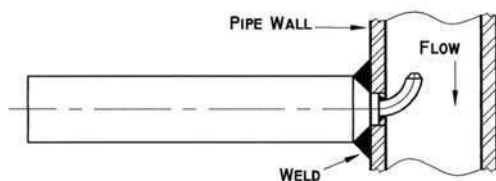

Figure 1
- The integrated boss and nozzle shown in Figure 1 is to be used in pipes with diameters smaller than 6 in. The boss material should be compatible with the pipe material on which it is to be installed.
- Drill a hole (-0 to +0.0016 inch) in the pipe wall at the location for nozzle insertion to match the outside diameter of the ledge where the nozzle tip meets the nozzle body (typically 0.50, 0.625, 0.75, or 1.05 inches OD). Insert nozzle until the start of the tapered section meets the pipe wall (See Figure 1 above). Ensure that the nozzle is correctly oriented so that the tip faces the flow.